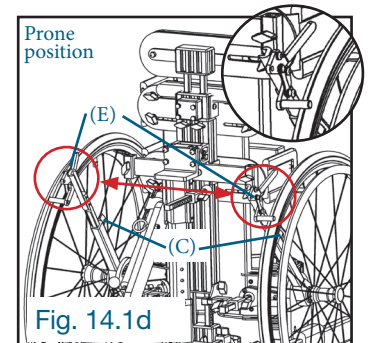

Fig. 14.1d
Swap the positions of the two lateral wheel locks (E) and then firmly retighten the two tightening knobs (C). (Fig. 14.1d)